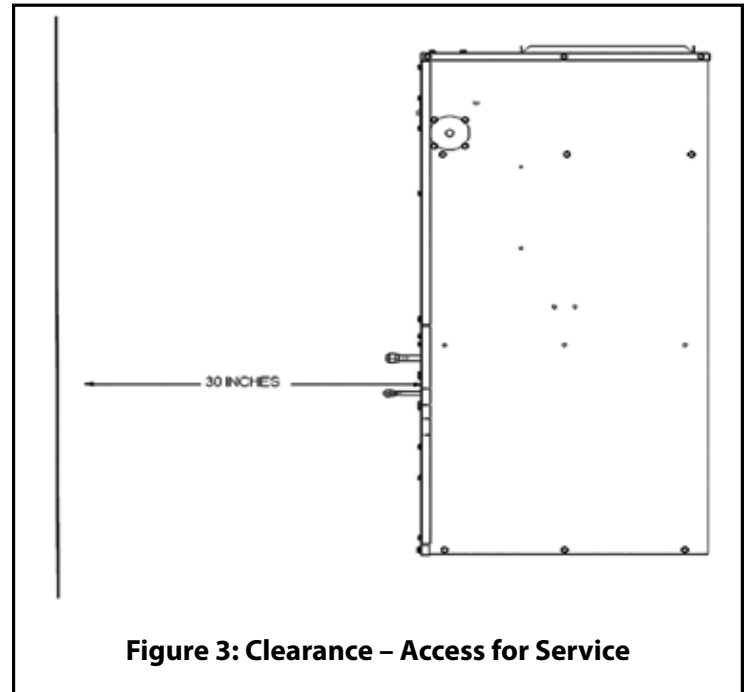

Figure 3: Clearance - Access for Service
This air handler is approved for zero (0) inches clearance to combustible material on any part of the air handler exterior casing. Refer to Table 5 and Figures 3 and 4 for clearance to combustibles and for service access clearances.